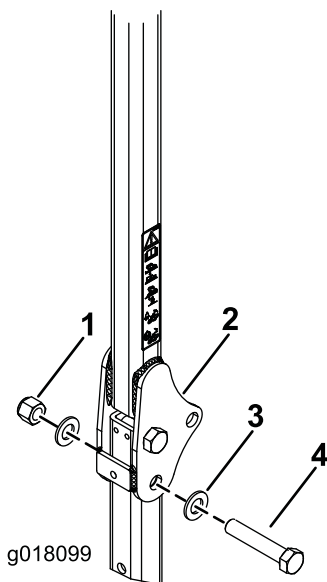

Figure 21
2. Insert a washer (13/16 x 1-1/2 inches) onto each bolt (3/4 x 4 inches) as shown in Figure 21.
3. In the holes where the pins were removed, install the bolts and washers (Figure 21).
4. Install another washer onto each bolt and secure with nuts (3/4 inch) as shown in Figure 21. Torque the nuts 323 to 396 N·m (238 to 292 ft-lb).
5. Torque the ROPS pivot bolt (Figure 21) 91 to 113 N·m (67 to 83 ft-lb) to avoid any bouncing of the roll bar and sunshade.